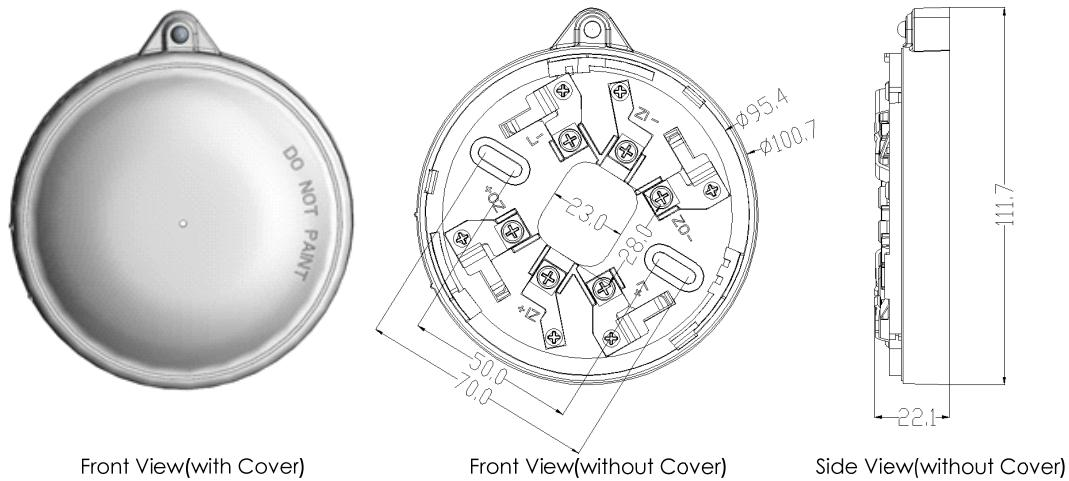

Figure 1 External view of Base Mount Short Circuit Isolator
1. The appearance of the Base Mount Short Circuit Isolator is shown in Figure 1. Figure 1-a, 1-b and 1-c are front view with a cover, front view without a cover and side view without a cover, Respectively.
2. As shown in Figure 1-b, "ZI+" and "ZI-" are the positive and negative terminals of the bus input. ZO+ and ZO-are the positive and negative terminals of the bus output. "L+" and "L-" are used to connect the remote control lights.